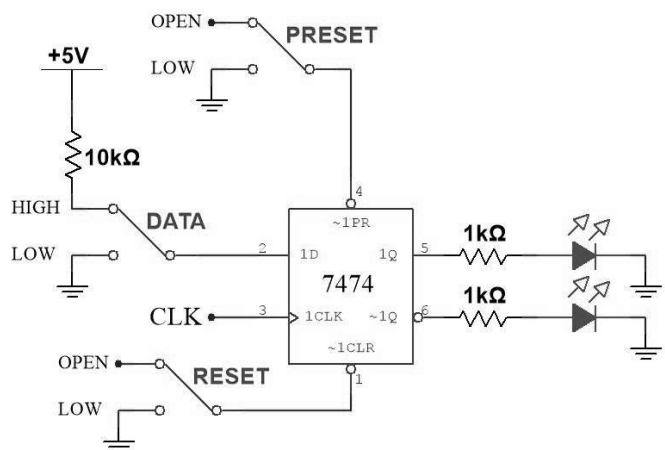

Figure 3.15. Experimental Edge-triggered D Flip-flop
- Connect the circuit of figure 3.15!
3. Describe what a D flip-flop of figure 3.15 did!